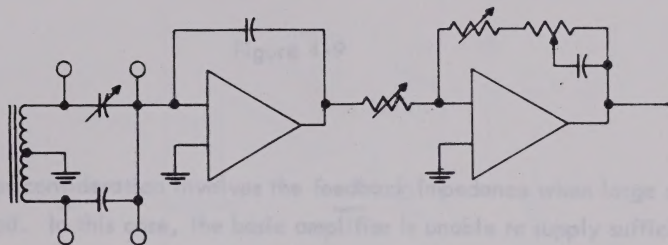

Figure 4-8
b. Capacitance-to-Voltage Converter. The input amplifier described in Paragraph 4-2 is used to convert capacitance to analog voltage. This stage is followed by an inverting amplifier which provides gain and phase trimming for each capacitance range (Figure 4-8).